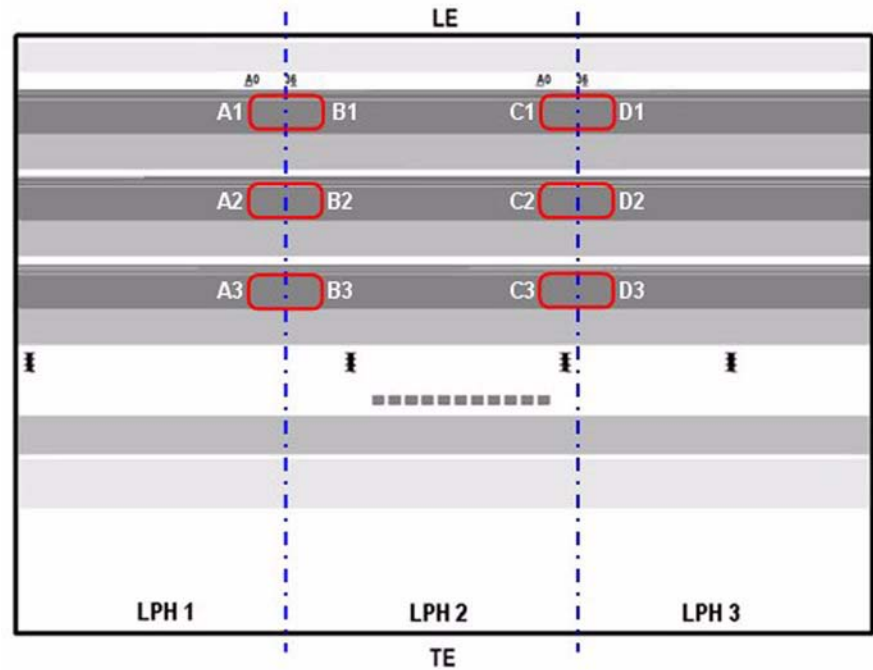

Figure 9 Density Check Locations
1. Compare the density at these locations: **A1 to B1**, **C1 to D1**, **A2 to B2**, **C2 to D2**, **A3 to B3**, and **C3 to D3** (Figure 9).